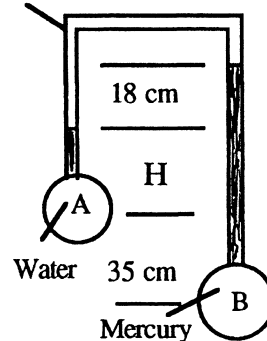

Fig. P2.32
**2.32** For the manometer of Fig. P2.32, all fluids are at  $20^\circ\text{C}$ . If  $p_B - p_A = 97 \text{ kPa}$ , determine the height  $H$  in centimeters.